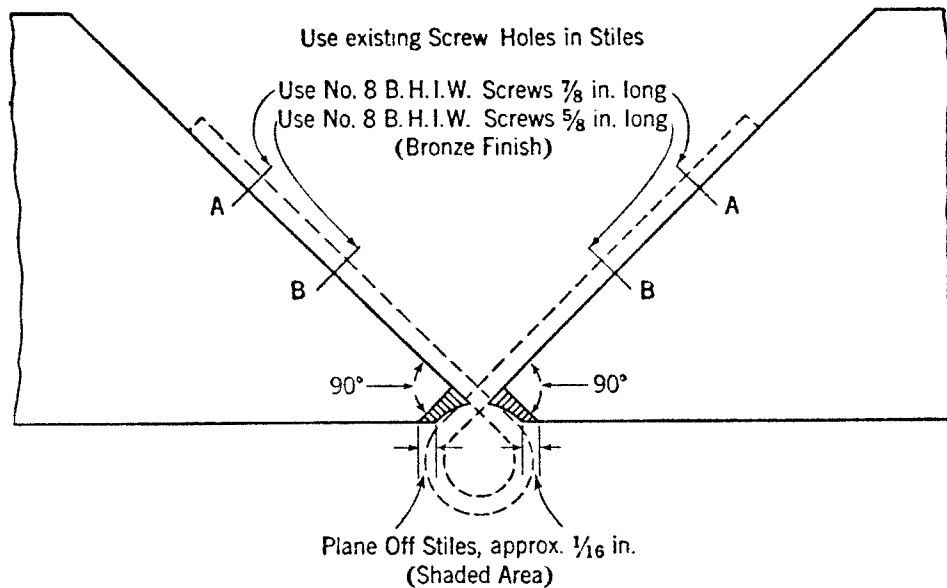

Fig. 5
3.05 When a worn or defective bronze piano hinge is replaced by a steel hinge (P-370242) it is necessary to plane the beveled booth door stiles as indicated in Fig. 5 so that the new hinge may be properly seated. Existing screws used to secure the bronze hinge should be replaced with No. 8 $\frac{7}{8}$ inch binding head bronze finish wood screws at location "A" and No. 8 $\frac{5}{8}$ inch binding head bronze finish wood screws at location "B" (see Fig. 5).